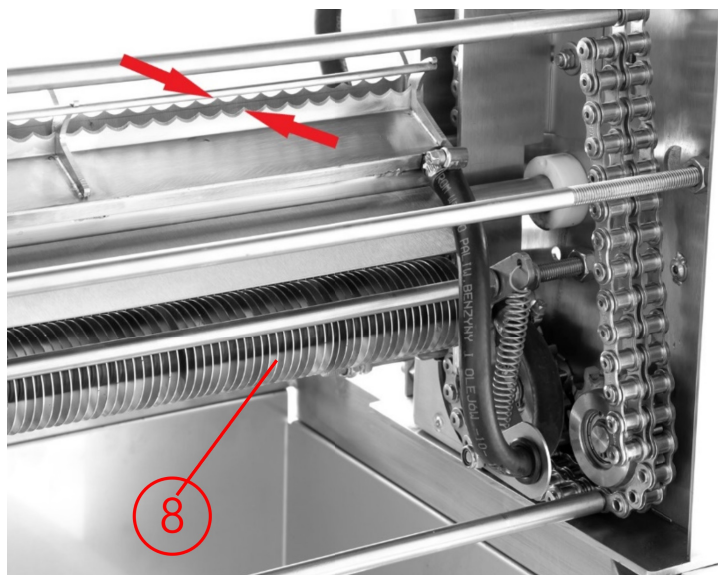

Fig.17.
- 3.8 Discs piercing uncapped cells in the frame (in Fig. 17 close-up view)